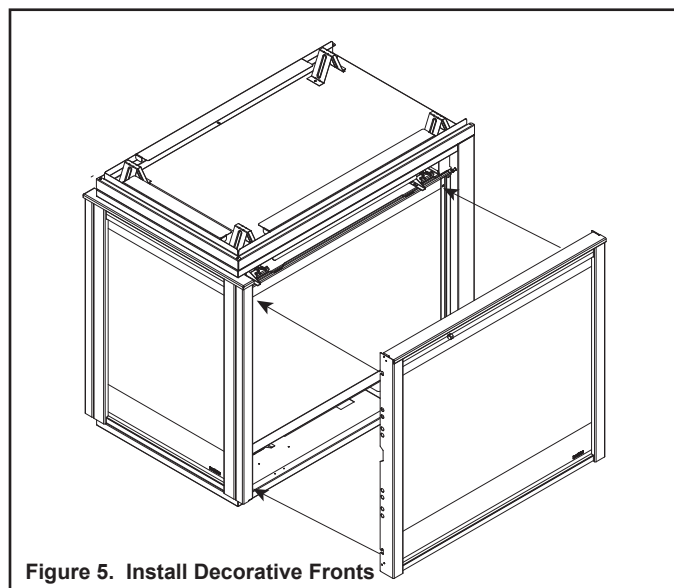
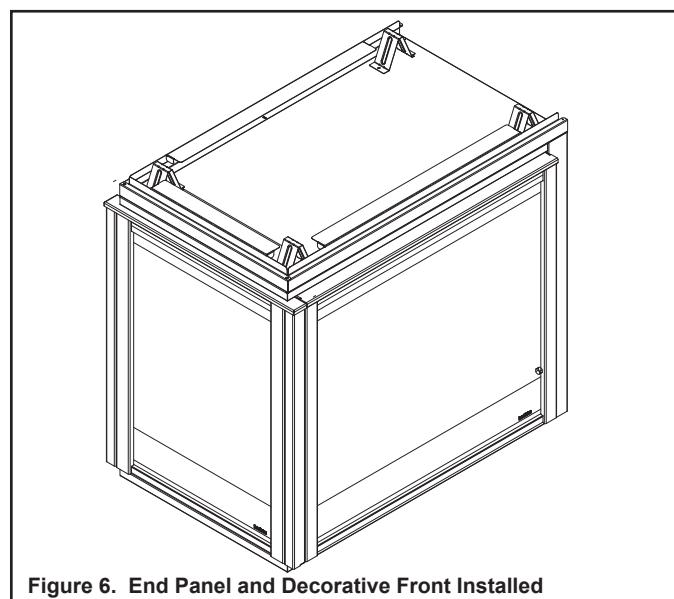

Figure 5. Install Decorative Fronts
Figure 6. End Panel and Decorative Front Installed
7. Install decorative front on each side of the appliance per instructions included with the decorative fronts. Pull gently on the decorative front and end panel to ensure that J-Hooks are seated properly and securely on shoulder bolts. See Figure 5 and Figure 6.